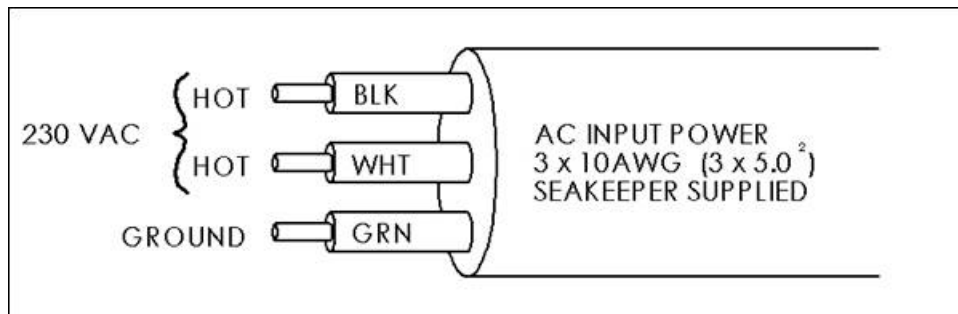

FIGURE 3 – CABLE 2 WIRE CONNECTIONS AT AC POWER DISTRIBUTION PANEL
- ii. Connect 230 VAC wires in CABLE 2 to a 30 Amp, double-pole Circuit Breaker at an AC power distribution panel according to Figure 3 above.